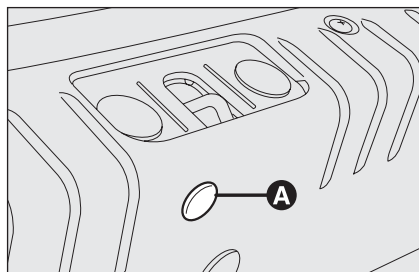
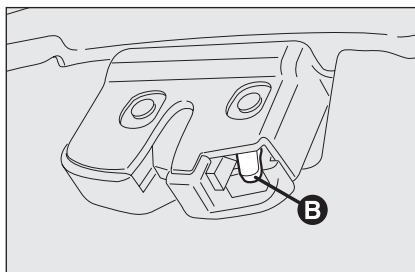

fig. 72
fig. 73
- ☐ working inside the boot, remove cover **A-fig. 72** and then operate lever **B-fig. 73**.